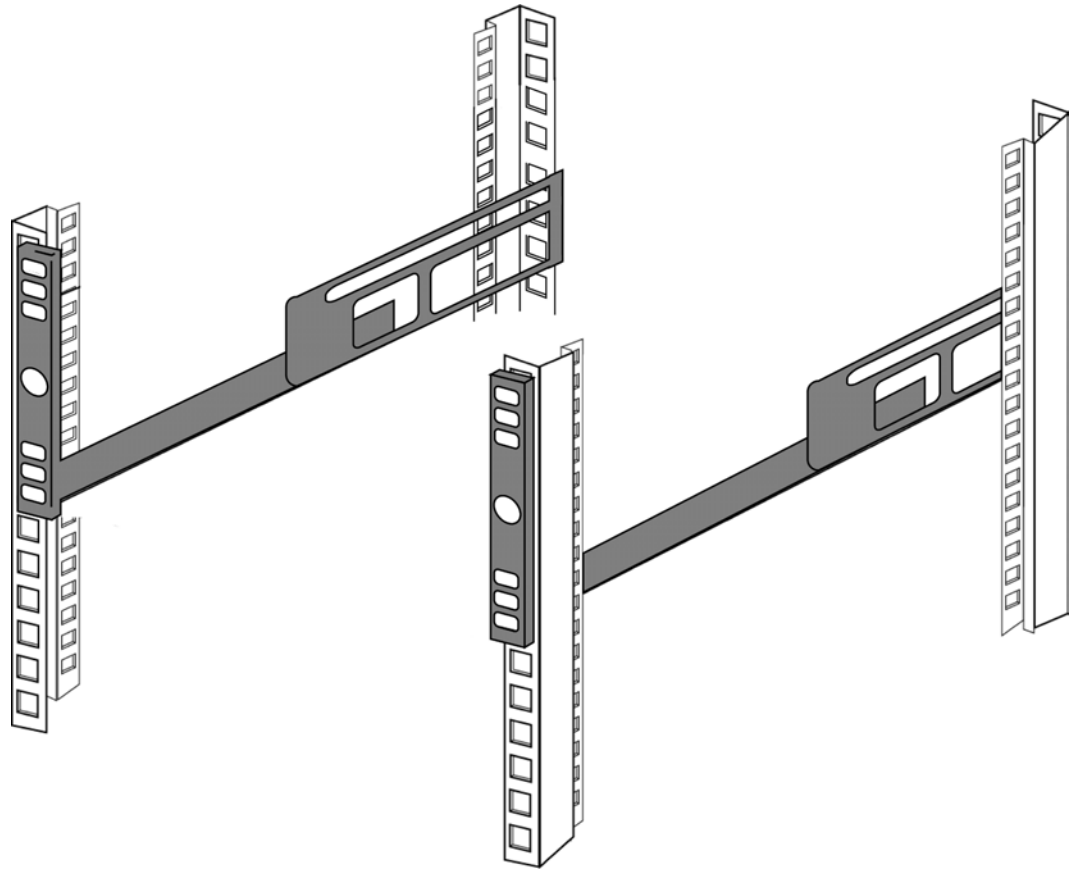

Figure 1-3: Rail Positioning
9. Position the chassis brackets to the rack rails, as shown in Figure 1-3.